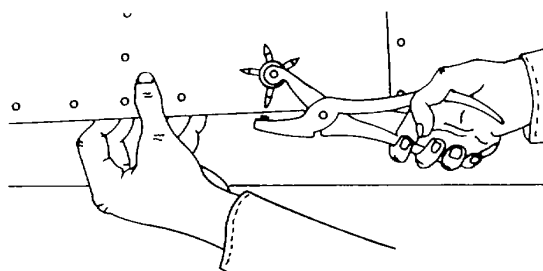

Figure 7-18. Using Leather Punch
**7-13. Leather Punch.** The leather punch is used to cut holes in the deicer boot for rivnut screws, as shown in figure 7-18.